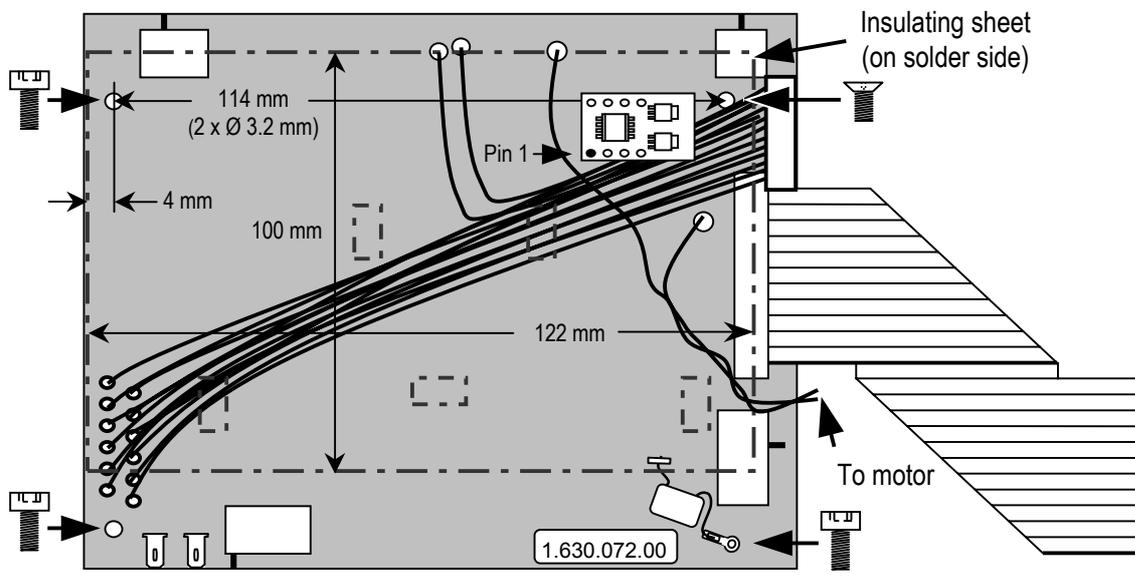

Fig. 1: Servo Board (assy. no. changed from 1.630.051.86 to 1.630.072.00 after modification)
- The 100 nF capacitor (59.03.2104) is connected to TP19 (HF-RET); its second terminal is soldered to the solder lug (29.26.1002), refer to fig. 1. Test points TP2 and TP3 must be bent by 90°, refer to fig.1; we urgently recommend to unsolder them before bending.
- Solder the pre-fabricated wires (1.630.114.93) to the corresponding solder pads according to the table below and to fig. 1 (at the former positions of connectors J1 and J3). Tie the cables with the wire straps (35.03.0109) according to fig. 4 and 5. Solder the two twisted wires (brn, blk) to the corresponding pads on the PCB (refer to the table below and to fig. 1).
- Solder the small Driver Brush Motor PCB (1.630.075.00) at the location of IC6. The ZIP connector for the flex PCB and its wires will be located between the Driver Brush Motor PCB and the Servo Board, therefore please leave sufficient space between the two PCBs. For details please refer to fig. 1 and 4.
- Cut a rectangular insulating sheet (dimensions: 122 x 100 mm) out of the insulating sheet put aside before; refer to fig. 1. Fix this insulating sheet as shown in fig. 3 to the solder side of the Servo Board, using five pieces of the double-sided adhesive foam tape contained in the kit. The foam tape has to be positioned according to fig. 1 and 3; press the insulating sheet firmly to the foam tape.
- Fold the flat ribbon cable as shown in fig. 1. Stick the label "1.630.072.00" over the label "1.630.051.86" and solder the two twisted wires to the motor's soldering tags (brn wire to red dot).